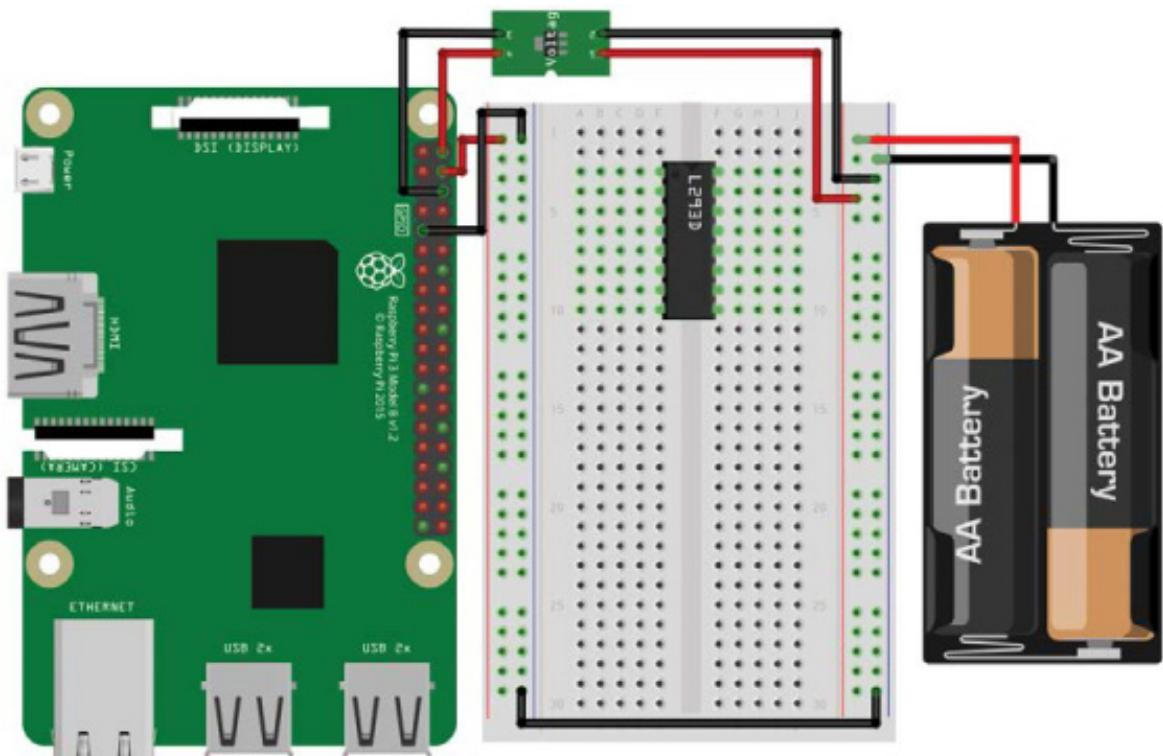

FIGURE 3-24 The L293D IC inserted into the breadboard with the Pi’s power rails connected
M-F jumper wire to connect the second 5 V pin (physical pin 4) of your Pi to the red power rail on the edge of your breadboard that you're *not already using*. Use another M-F jumper wire to connect a ground pin of your Pi (physical pin 9) to the blue power rail on the same side; see Figure 3-24. *Make sure you're not connecting anything to the power rail that you previously wired up!*
4. Now we'll connect the grounds of the two power rails up. Connect the two ground rails on your breadboard by running a black M-M wire from one blue power rail to the other. This connects your Pi's ground rail to your battery's ground rail, as shown in Figure 3-24. We refer to connected grounds as the *common ground*.